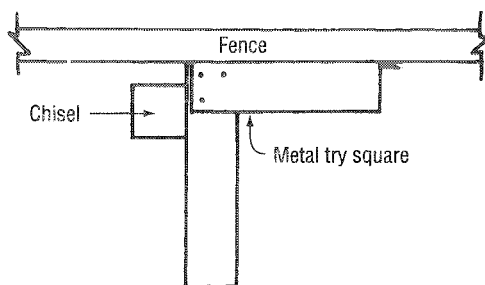

Fig. 4.23 Squaring the chisel.
4. Push the chisel and chisel bush up into the casting and square the chisel off the fence by using a small metal try square (**Fig. 4.23**). If the chisel is not set square to the fence the finished